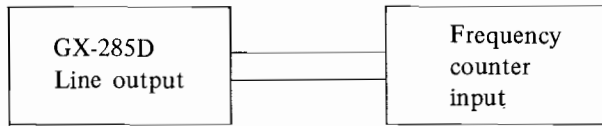

Fig. 1
As shown in Fig. 1, connect a Frequency Counter to the Line Output of Model GX-285D. Playback a 1,000 Hz pre-recorded test tape. Take a Frequency Counter reading at the beginning, middle, and end of tape winding during playback. The maximum value of these respective readings will represent tape speed deviation.
- 1) Connect a Frequency Counter to the line output terminals as shown in Fig. 1.